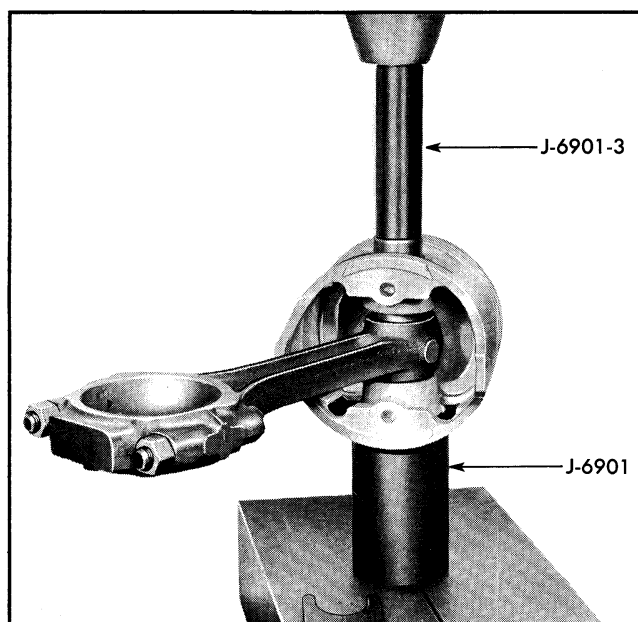

Fig. 6-146 Installation of Piston Pin
4. Place tool J-6901-3 in piston pin and press pin into piston and connecting rod (Fig. 6-146) until piston pin bottoms against plunger of tool J-6901. Piston must turn freely on pin. If piston binds on pin, disassemble, hone piston pin bosses slightly and reassemble.